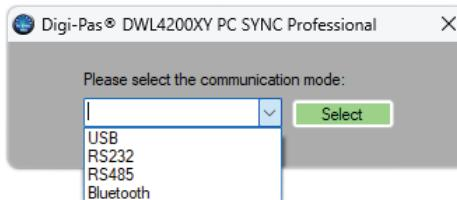

Figure 16. Shortcut of the DWL4x00XY PC SYNC
- Assuming steps stated in 3.1 Configuration of Single Compact Sensor Module with Converter and 4.1 Installation of the DWL4x00XY PC Sync Software have been done in this stage. Open PC SYNC software and select RS485 from the drop down menu as shown in Figure 16.